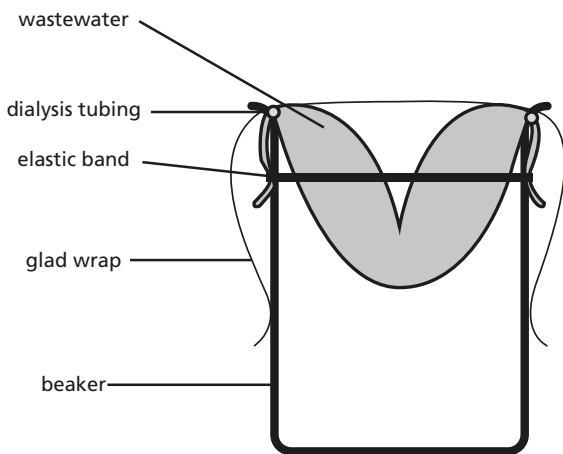

Figure 2: experimental setup
- Suspend tubing in beaker so there’s some pressure, on water, from sides of the beaker. Use an elastic band to hold tubing in place. Cover beaker with plastic wrap, as shown in Figure 2.